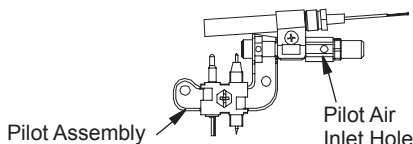

Figure 71 - Pilot Inlet Air Hole (Your pilot may vary from pilot shown)
2. Inspect burner, pilot and primary air inlet holes on injector holder for dust and dirt (see Figure 71, page 28).